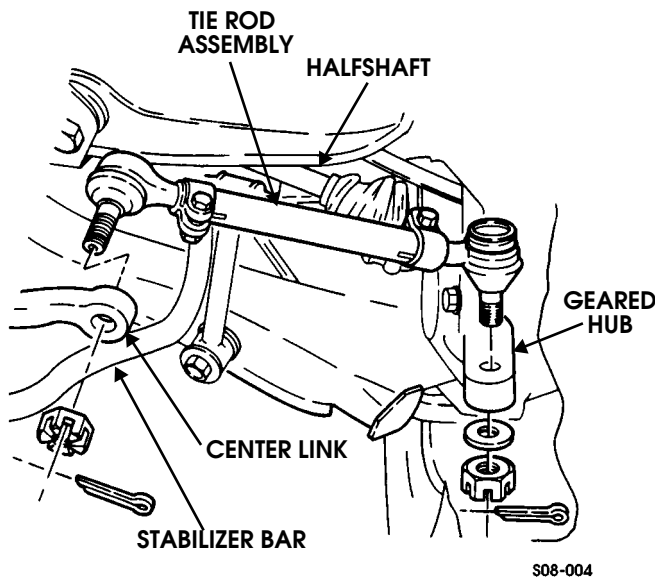

Figure 8-5: Tie Rod Removal
2. Remove cotter pin and slotted nut securing tie rod to center link (Figure 8-5).
1. Secure tie rod to center link with slotted nut. Tighten slotted nut to 70 lb-ft (95 N•m) (Figure 8-5).